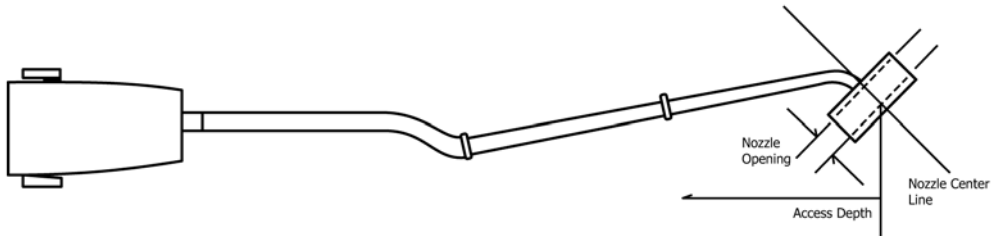

FIG. 3 Access Depth for Combination and Canister Vacuum Cleaners (Nozzle Not Perpendicular to Vacuum Cleaner)
7.2 *Combination and Canister Vacuum Cleaners* (Fig. 2 and Fig. 3):
7.2.3 *Vacuum Cleaner Nozzle Not Perpendicular to Vacuum Cleaner* (Fig. 3)—The access depth is the distance (in inches or millimetres) measured from the front of the 0.75-in. (19-mm)